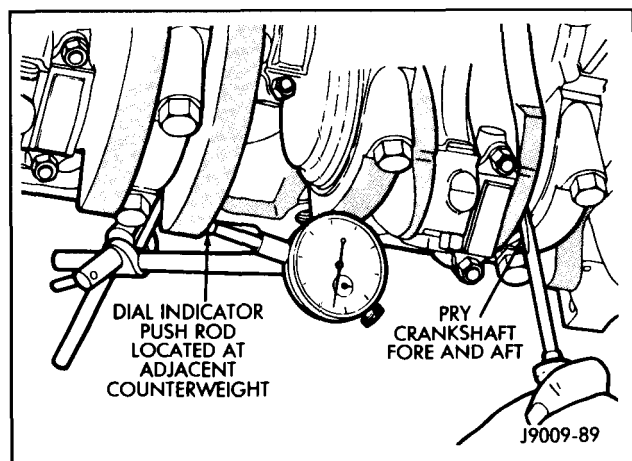

Figure 7-4
2. Set the dial indicator stem on the face of the adjacent counterweight (Figure 7-4).
3. Pry the crankshaft fore and aft (Figure 7-4).